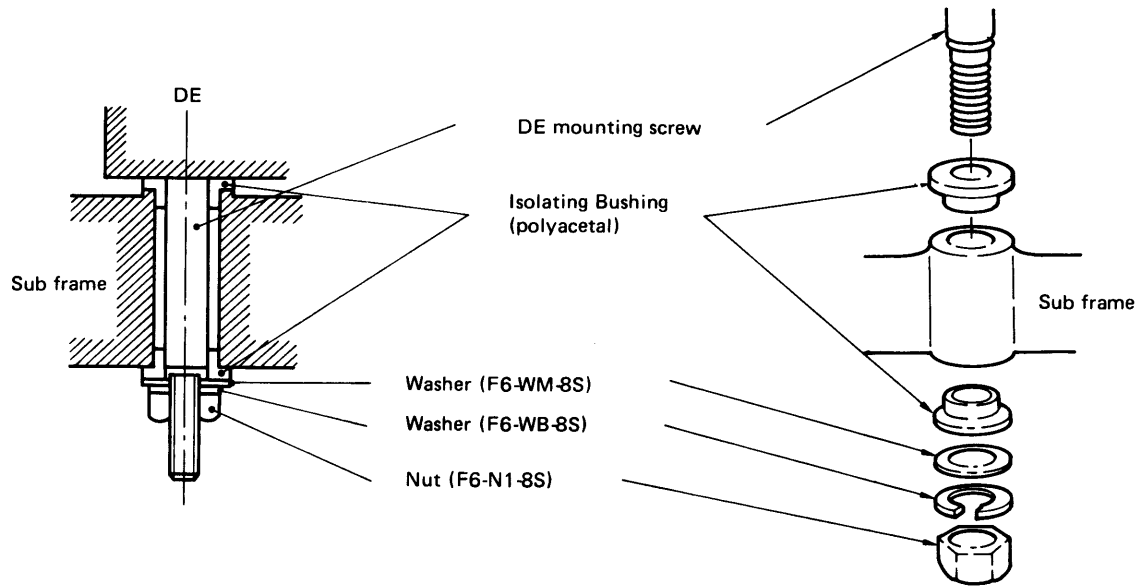

Figure 6-5-2 DE Installation
- (1) Fasten Disk Enclosure to the sub-frame as illustrated in Fig. 6-5-2.
- (2) Install belt in accordance with para. 6.5.4.
- (3) Unlock acuator (See para. 3.4.4).
- (4) Fasten connectors (CN2, CN3, CN5) coming from disk enclosure.
- (5) Install grounding plate between gate shelf and sub-shelf of the unit.